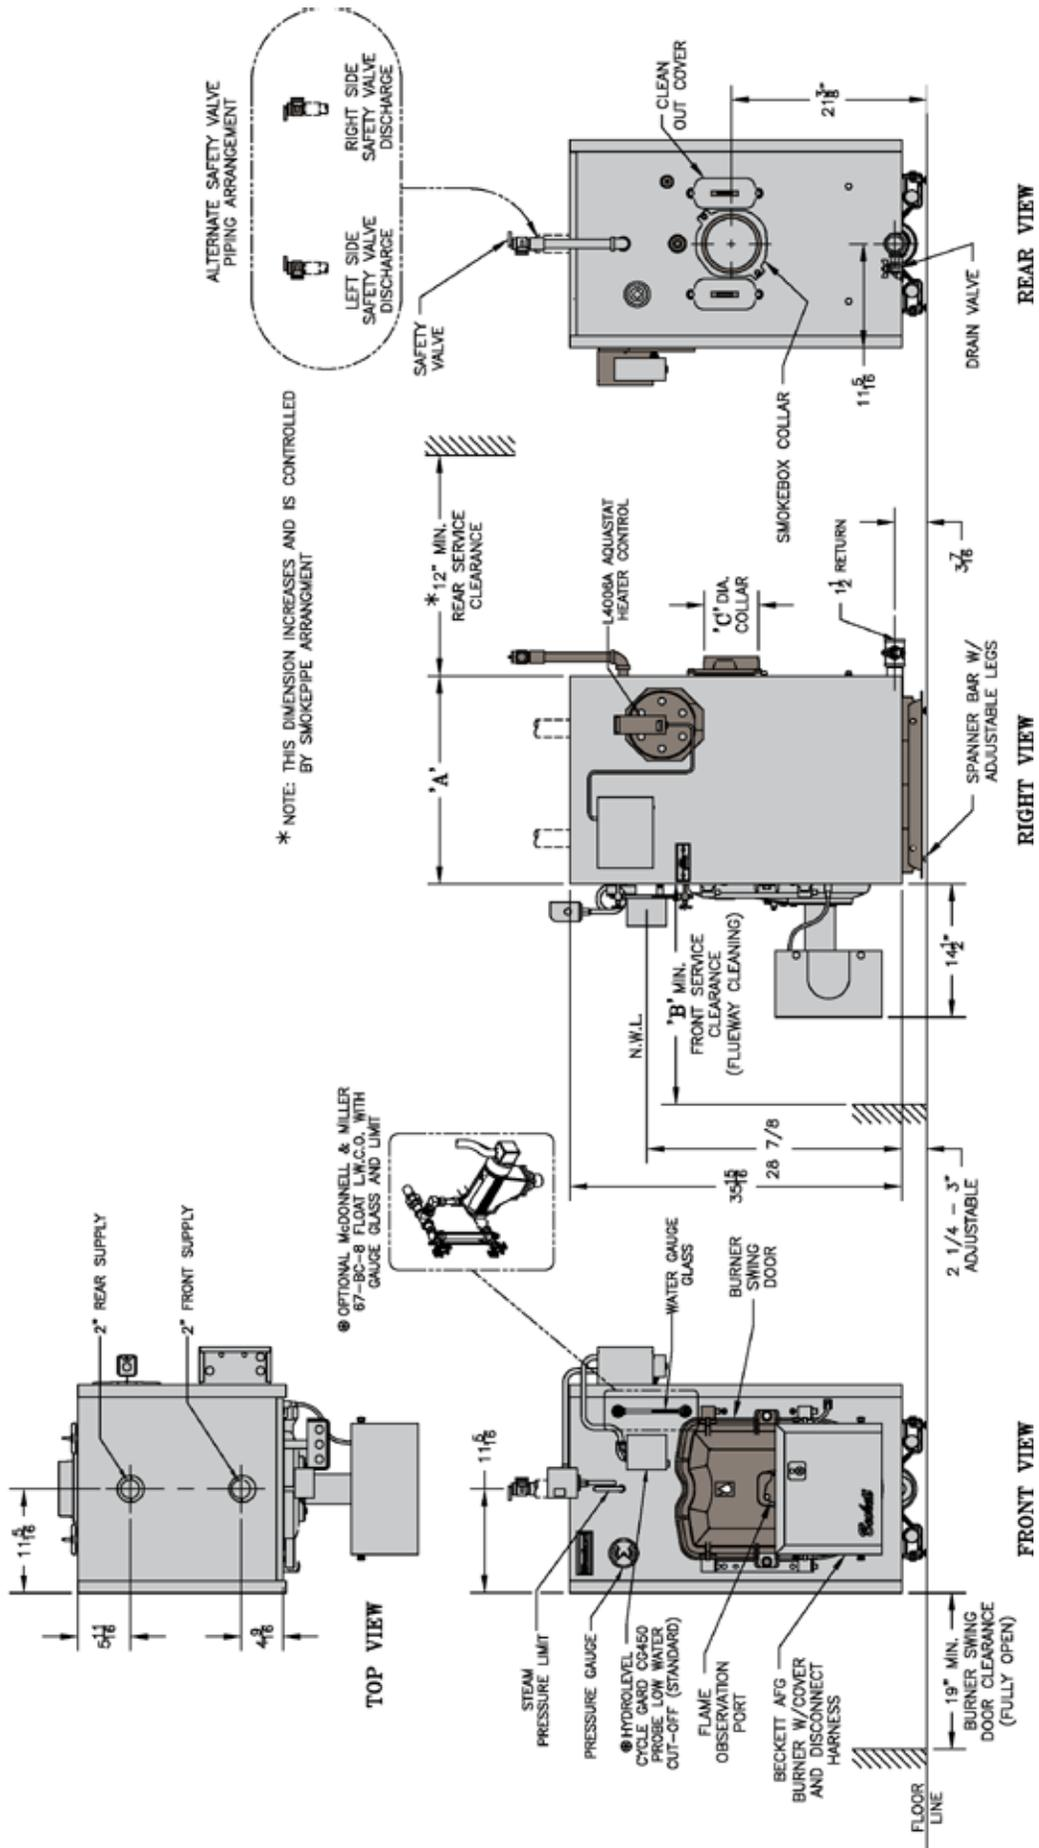

Figure 1: MST288 Thru MST629 Steam Boiler with and without Tankless Heater
TABLE 1A: DIMENSIONAL DATA (SEE FIGURE 1)
2. Any claims for damage or shortage in shipment must be filed immediately against the carrier by the consignee. No claims for variances from, or shortage in orders, will be allowed by the manufacturer unless presented within sixty (60) days after receipt of goods.
B. **LOCATE BOILER** in front of final position before removing crate. See Figure 1.